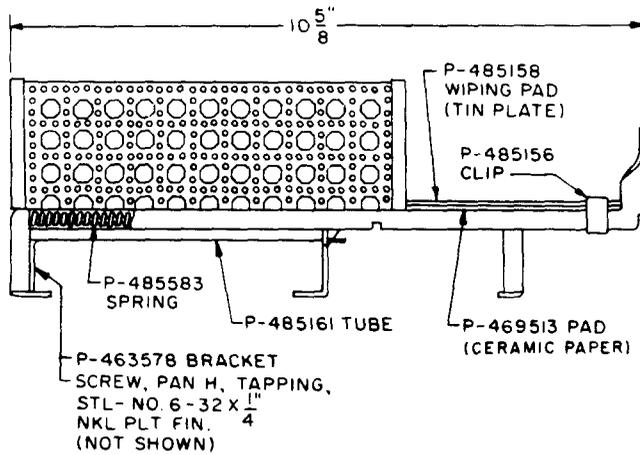

Fig. 6—504A Solder Copper Holder Tool
2.08 504A: The 504A solder copper holder tool (Fig. 6) is a rectangular cage with an inner shield mounted on a base which may be used on a flat surface or fastened to a ladder step. The base extends beyond the cage and is formed to fit the handle of a soldering copper. The 721A adapter tool can be added to the 504A tool for holding the KS-14440 solder copper. This adapter cannot be used with KS-8740 soldering copper. See Rest, Copper, Soldering, in Section 074-253-130.